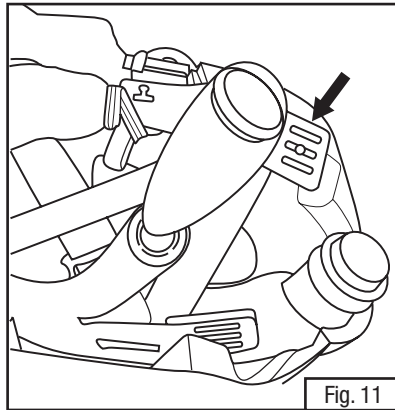

Fig. 11
- Release the suspension from the headgear by pulling the height adjustment slot off the peg at each of the four attachment points. Fig. 11 points to one of the attachment slots. There are 2 in the rear and 2 in the front.
- Install new suspension by snapping each of the four height adjustment slots onto the four pegs on the headgear shell. **NOTE:** See “Donning and Fitting” section of these *User Instructions* for information on adjusting the suspension for a comfortable fit (Fig. 11).